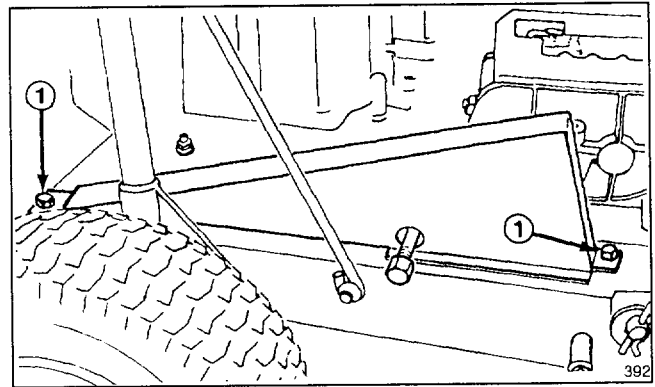

Figure 23
1. Remove two screws securing chain cover to rider chassis and lift off chain cover (Fig. 23).